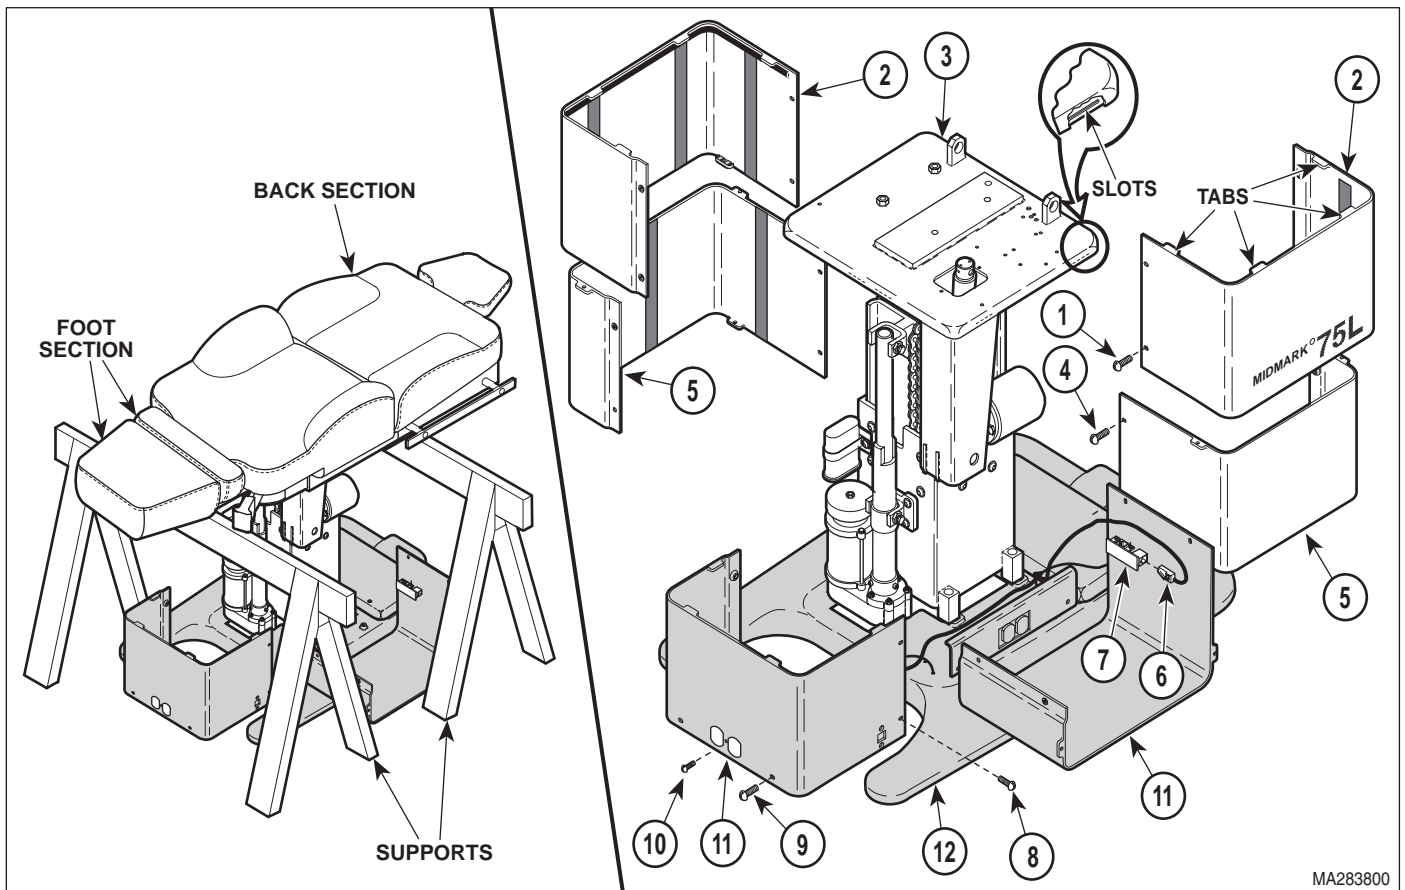
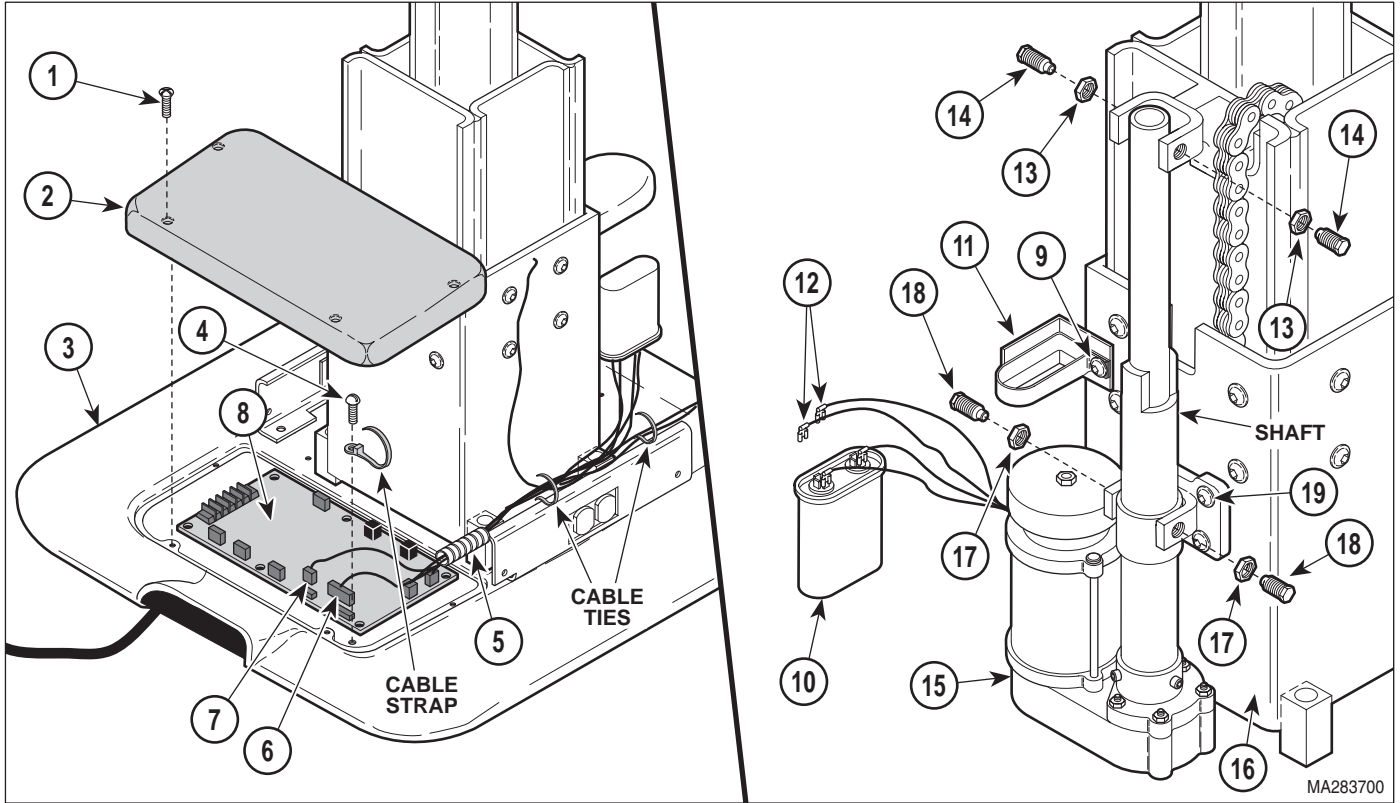

Figure 4-14. Base Actuator Access
Figure 4-15. Base Actuator Removal / Installation
- (4) Remove four screws (1, Figure 4-14) and R.H. and L.H. outer shrouds (2) from column adapter weldment (3).
- (5) Remove four screws (4) and R.H. and L.H. middle shrouds (5).
- (6) Disconnect modular cords (6) from inlet PC board (7).
- (7) Remove four screws (8), four screws (9), two screws (10), and partially remove R.H. and L.H. inner shrouds (11) from base casting (12).
- (8) Place supports under back section and foot section.
- (9) Remove four screws (1, Figure 4-15) and PC board cover (2) from base casting (3).
- (10) Remove screw (4) and cable strap from base casting (3). Cut cable strap.
- (11) Cut all cable ties securing base actuator wires to other wires.
- (12) Remove plastic wrapping (5) from around wires.
- (13) Disconnect base wire harness (6) and brake wire harness (7) from PC control board (8).
- (14) Loosen screw (9).
- (15) Push base capacitor (10) out of capacitor strap (11).
- (1) Remove jam nuts (13 and 17, Figure 4-15) from pivot screws (14 and 18).
- (2) Clean adhesive residue from threads of pivot screws (14 and 18).
- (3) Screw jam nuts (13 and 17) on pivot screws (14 and 18) fully.
- (4) Coat threads of two pivot screws (18), which are directly in front of jam nuts (17), with permanent threadlocking adhesive (Loctite 262).
- (5) Install base actuator (15) on column assembly (16) and secure with two pivot screws (18). Tighten pivot screws to 50 to 60 in-lbs. (5.6 to 6.8 N•m).
- (6) Tighten two jam nuts (17) to 45 to 55 ft-lbs. (61 to 74.6 N•m).
- (7) Install plastic wrapping (5) around base actuator wires.
- (8) Connect brake wire harness (7) and base wire harness (6) to PC control board (8).
- (9) Connect two wires (12) to terminals of base capacitor (10).
- (10) Slide base capacitor (10) into capacitor strap (11) and secure by tightening screw (9).
- (11) Secure wires together with cable strap. Secure cable strap to base casting (3) with screw (4).
- (12) Secure wires together as a bundle with two cable ties.
- (13) Install PC board cover (2) on base casting (3) and secure with four screws (1).
- (14) Plug modular cord (6, Figure 4-14) into inlet PC board (7).
- (15) Plug table power cord into wall outlet.
- (16) Run TABLE UP and / or TABLE DOWN function until shaft of base actuator (15, Figure 4-15) is aligned with bracket of column assembly (16).
- (17) Coat threads of two pivot screws (14), which are directly in front of jam nuts (13), with permanent threadlocking adhesive (Loctite 262).
- (18) Secure shaft of base actuator (15) on column assembly (16) and secure with two pivot screws (14). Tighten pivot screws to 50 to 60 in-lbs. (5.6 to 6.8 N•m).